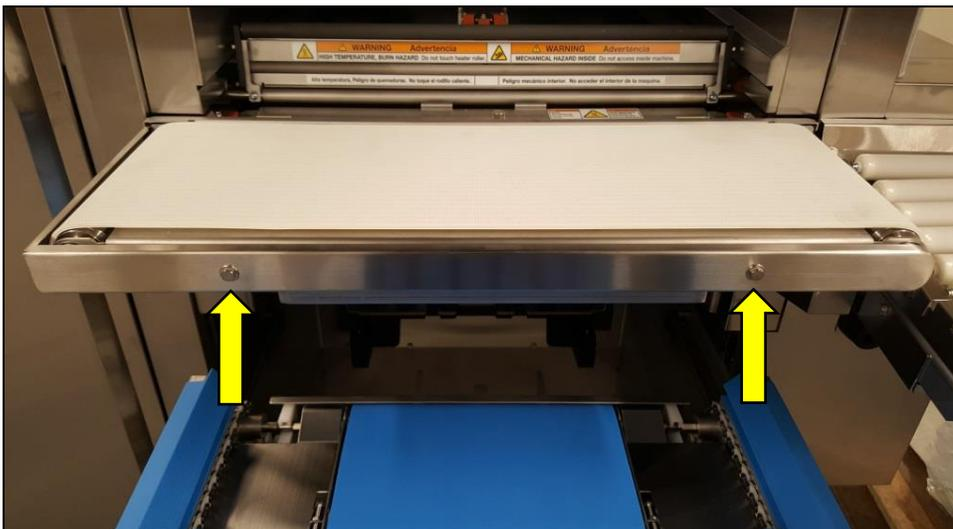

Figure 3. Front Discharge Conveyor Cover
- Remove the front discharge conveyor cover (two 7mm bolts). See Figure 3.